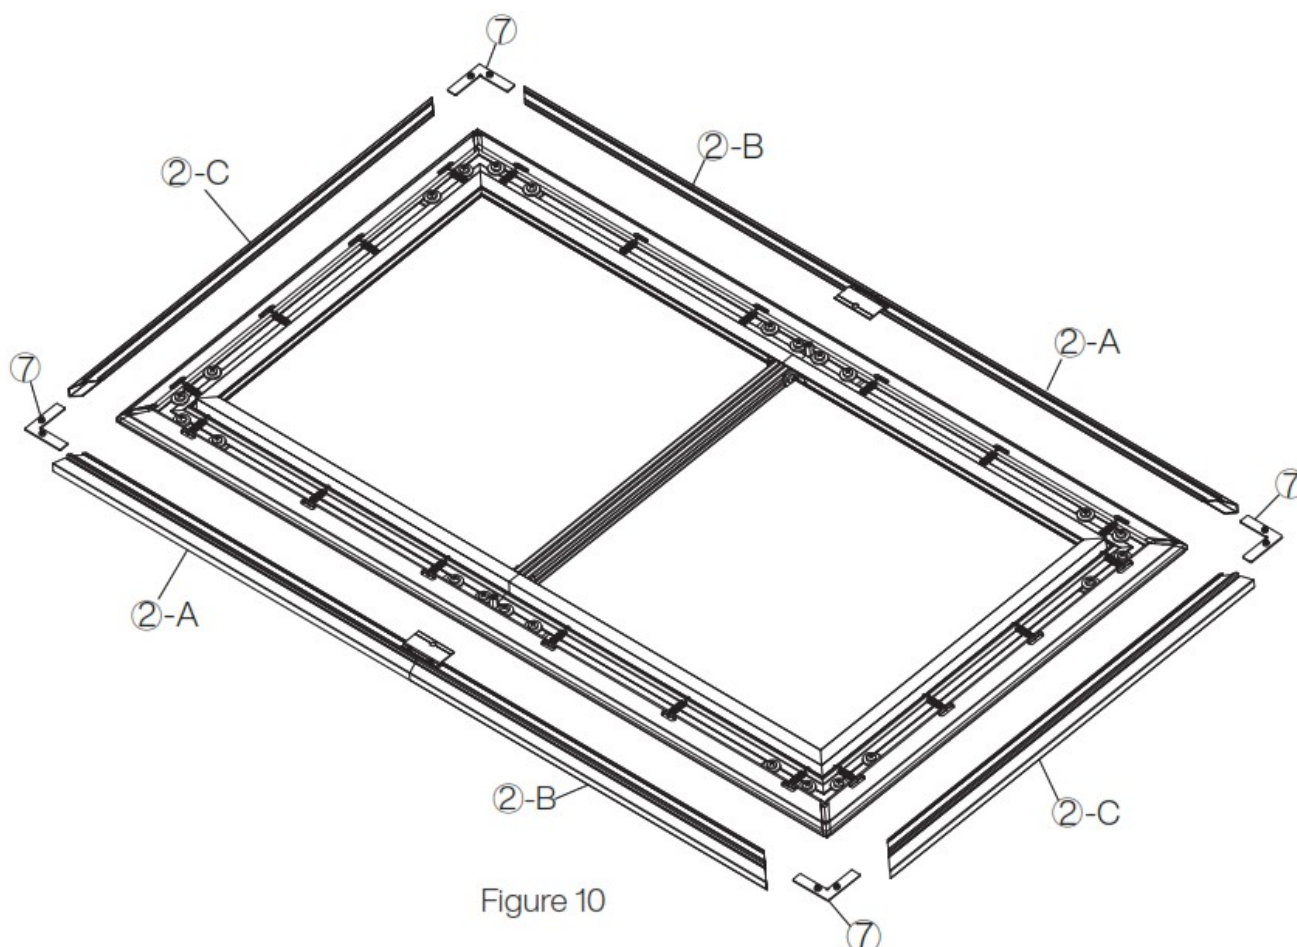

Figure 10
2. Put the outer frame against the frame screen, align the four corners, connect the surroundings with corner connector and lock all the screws (Figure 10)